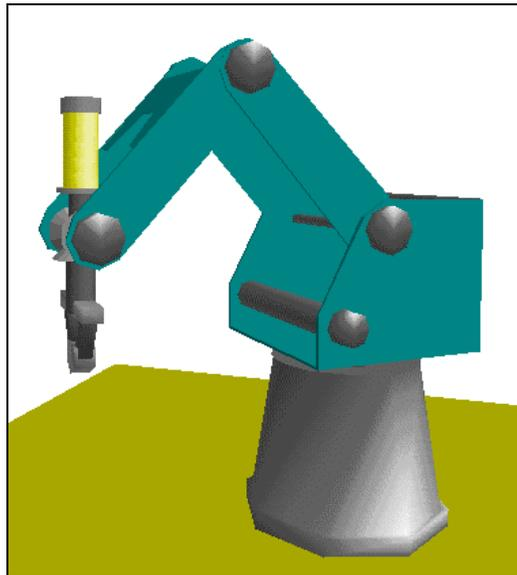

Figure 3-6: Position #5
- 9 Moving only the wrist pitch axis, bring the arm to the position shown in Figure 3-6, and record this as position #5.